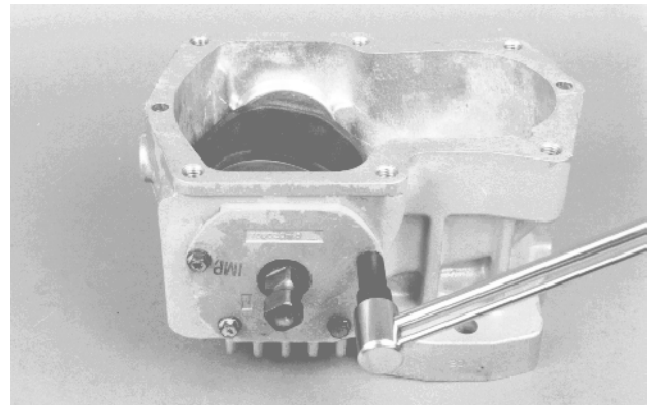

Figure 61
6. Install hex tapping screws and tighten to a torque of 6 to 9 ft-lb (8 to 12 N-m) (Fig. 61).